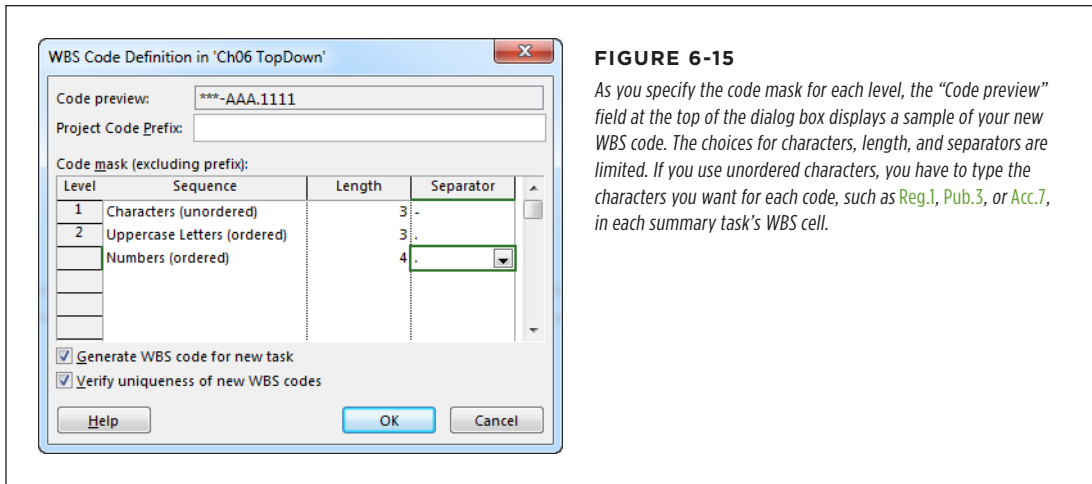

FIGURE 6-15
2. In the dialog box's "Code mask" section, in the first Sequence cell, choose the type of characters you want to use for the top level of the hierarchy, as shown in Figure 6-15.